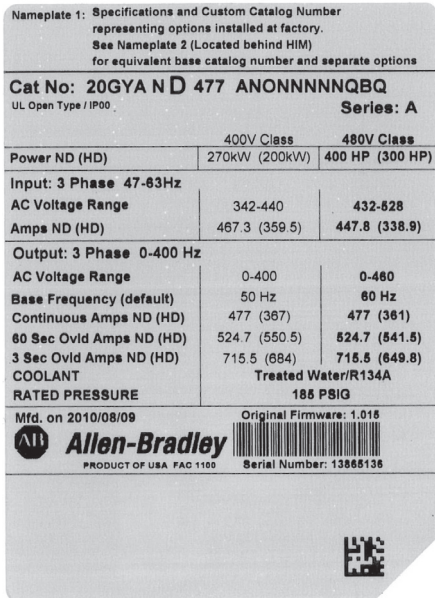

Fig. 11 — Drive Module Label
3. From the drive module label (Fig. 11) located on the drive module: